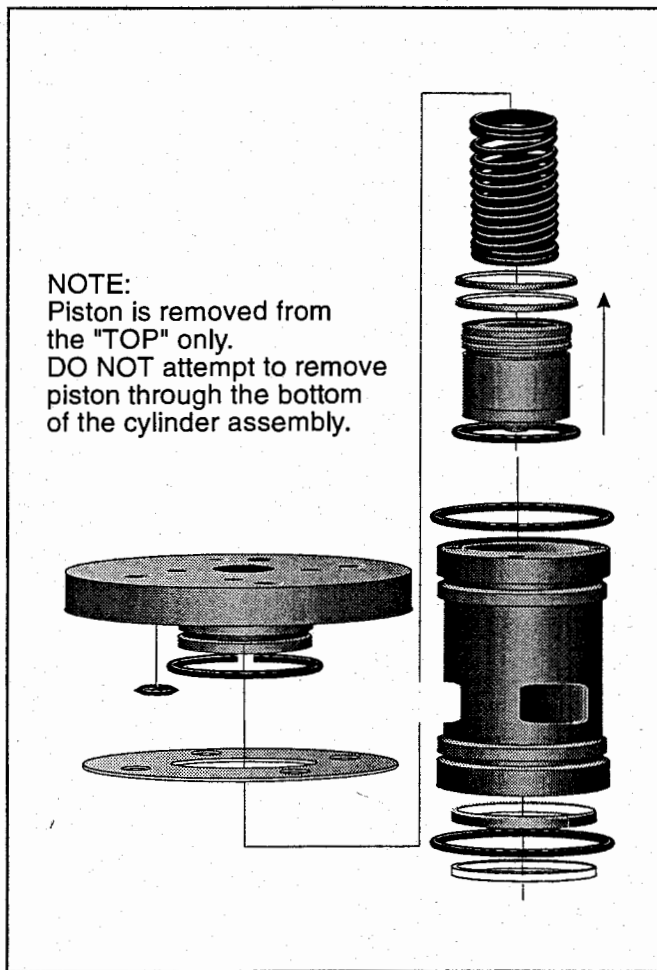

Figure 3-1 AP Option Assembly
5. The Spring, Piston, Indicator Stem Assembly (if used) and Cylinder may be removed at this time by pushing from the bottom of the unit. See Figure 3-1.